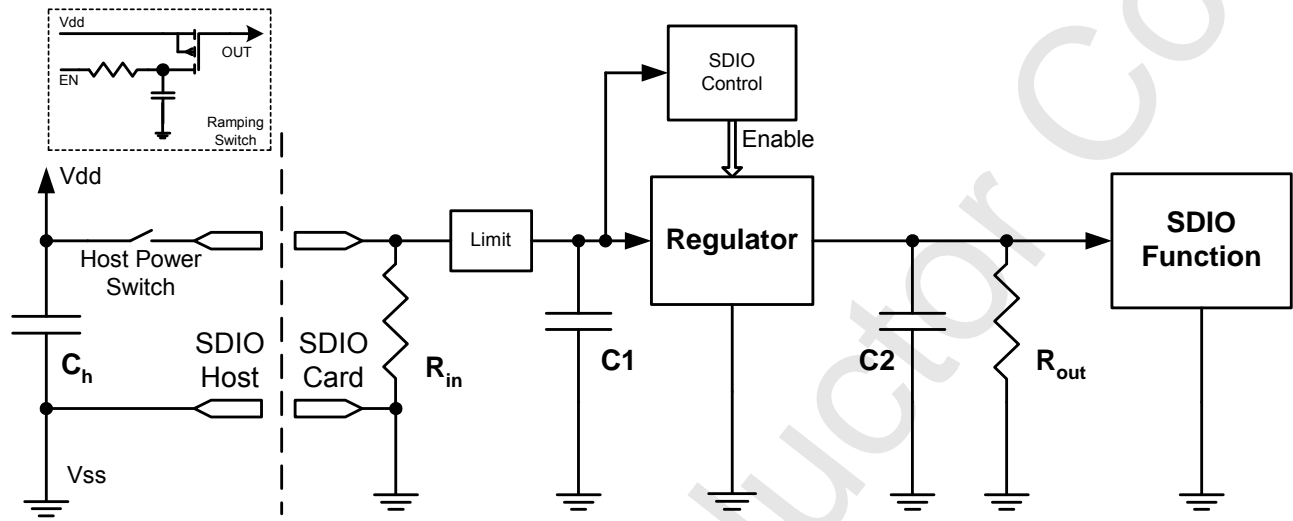

Figure 15-1 : SDIO Inrush Current
1. The maximum initial load (i.e. upon power-up) that can be placed in an SDIO card is 10 μ F in parallel with 220 Ω . The 10 μ F capacitance represents all bypass capacitor(s) directly connected across the V_{dd} lines in the card common area or function(s) plus any capacitive effects visible through any regulators in the card that are enabled at power-up. This is represented in Figure 15-1 by C1. The 220 Ω resistance represents the maximum current (15 mA) drawn by the card during connect. This is shown as R_{in} .
3. The hosts' V_{dd} power lines shall be able to withstand a hot insertion of the above loads without causing an upset of the hosts' operation. The host may achieve this tolerance by many methods. For example, a soft-start reduces the inrush current to the SDIO card on power-up. Additionally, a large capacitor on the V_{dd} lines (shown as Ch in Figure 15-1) can supply the needed inrush current. Standard bypass methods should be used to minimize inductance and resistance between the bypass capacitors and the connectors to reduce droop. The bypass capacitors themselves should have a low dissipation factor to allow decoupling at higher frequencies.
2. Maximum capacitive load changes shall not exceed 10 μ F when an internal regulator is enabled or disabled. This is shown as C2 in Figure 15-1.
Figure 15-1 shows the various components that contribute to inrush current. In this diagram, the host has an optional power switch so that the card is inserted into a socket without power applied (i.e. a cold socket). The initial load is defined by C_1 and R_{in} where C_1 is the sum of all capacitance from V_{dd} to ground on the input side of the regulator and R_{in} represents the DC load of the regulator and the SDIO control circuits. The Host can control the timing of the application of power to the SDIO card by using the optional host power switch. If the host does not include a power switch, then the inrush current will begin to flow once the card is inserted and contact is made to the V_{dd} and V_{ss} pins. In this diagram, C_1 has a maximum value of 10uF and the R_{in} equivalent resistance is 220Ω minimum. The host shall be designed so that the insertion of a SDIO card that meets the input capacitance and resistance values defined above shall not be damaged or have its operation disrupted (i.e. a reset). On card insertion or enabling of the host power switch, charge will rapidly flow from the charge host capacitor (C_H) to the discharged input capacitor on the card (C_1). The charge will transfer and the voltage on the host V_{dd} line will drop in proportion to the ratio of C_H to C_1 . If $C_H = C_1$, the resulting V_{dd} droop will be 50%. If the host must limit the V_{dd} droop to 10%, then C_H should be 10 times the value of C_1 (100uF). Alternately, the host may limit the inrush current by using a semiconductor switch such as a FET for the host power switch. This is shown in Figure 15-1 as the ramping switch. By using a RC network to drive the FET gate, the V_{dd} applied to the card will be a ramp, rather than a near-instantaneous step. This reduced rise time will greatly reduce the inrush current, allowing a smaller C_H value to be used.
If the design of a SDIO card requires a input capacitance (C_1) larger than the 10uF maximum value, then some sort of limit is required as shown as the Limit block in Figure 15-1. This limit function reduces the inrush current to a value equal to or less than the current inrush of a 10uF capacitor. This limit device could be a ramping switch similar to the one shown for the host.
Figure 15-1 also illustrates the use of a secondary voltage regulator (or switch) to power the SDIO function. Since the enabling of the power to the function may cause a secondary current surge to charge C_2 and since the host may not have control of the timing of this secondary surge, it is entirely the responsibility of the SDIO card to limit the effect on the host V_{dd} due to these secondary surges. Again, a ramping type switch is a possible solution as is a "soft start" regulator. The actual design is left to the SDIO card maker.